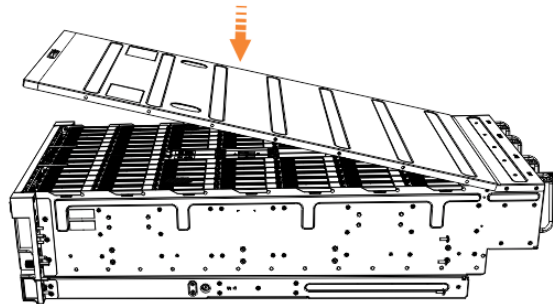

Figure 129. Aligning the top cover
6. Carefully lower the cover and ensure that it is aligned correctly with the back of the enclosure, as shown in Figure 129 on page 177.